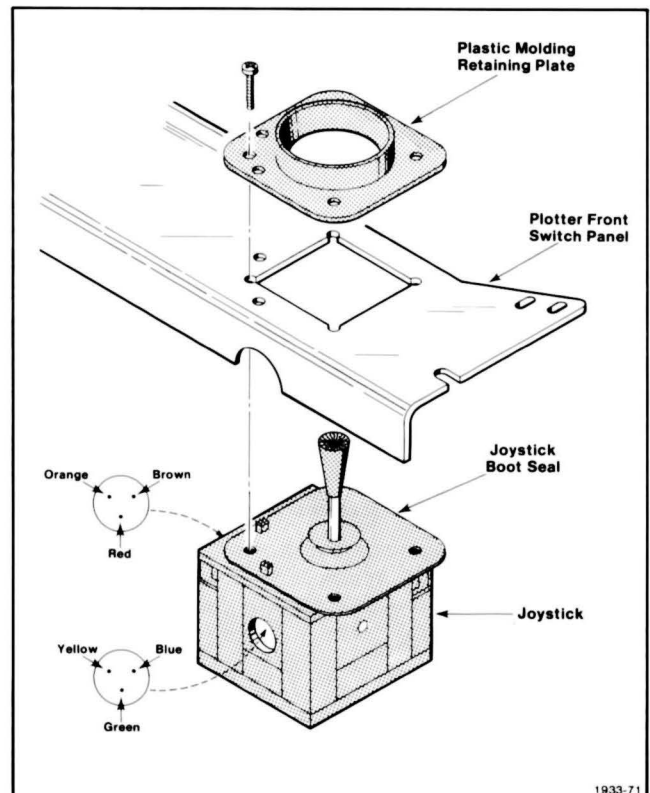

Figure 3-11. Joystick Assembly.
To remove the joystick from the plotter, use the following procedure (refer to Figure 3-11):
To replace the joystick, use the following procedure (refer to Figure 3-11):
1. **Ensure** that both joystick trim adjustments are moved toward the corner as shown in Figure 3-11.
2. **Solder** the six-wire cable to the solder contacts as shown in Figure 3-11.
3. **Slide** the plastic handle off the joystick control lever, and place the joystick boot seal over the top of the joystick assembly. Make certain that the boot seal is arranged as shown in Figure 3-11 so that the two trim adjustments protrude through two holes in the seal. Then, replace the plastic handle.
4. **Hold** the joystick to the underside of the front switch panel so that the yellow, blue and green wires point to the front of the plotter and the orange, brown, and red wires point to the left. Place the plastic molding retaining plate on top of the front switch panel over the joystick assembly. Arrange the retaining plate so that the group of three holes point to the left-front corner of the plotter as shown in Figure 3-11. Be sure that the rubber boot seal is in place and that the two joystick trim adjustments are visible through the two holes on the plastic molding retainer.